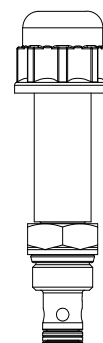

FIG. 4-4
5. Push and hold the power cartridge on valve (9008438). (FIG. 4-4)